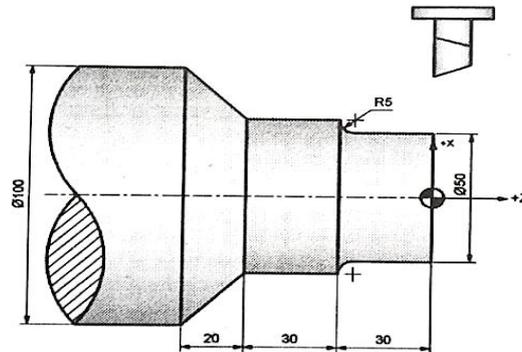

Figure 2
Q.4 (a) Write a manual part program for finishing the component as shown in Figure 2. Assume spindle speed 500 rpm and feed rate as 0.5 mm/rev. **05 A 4**